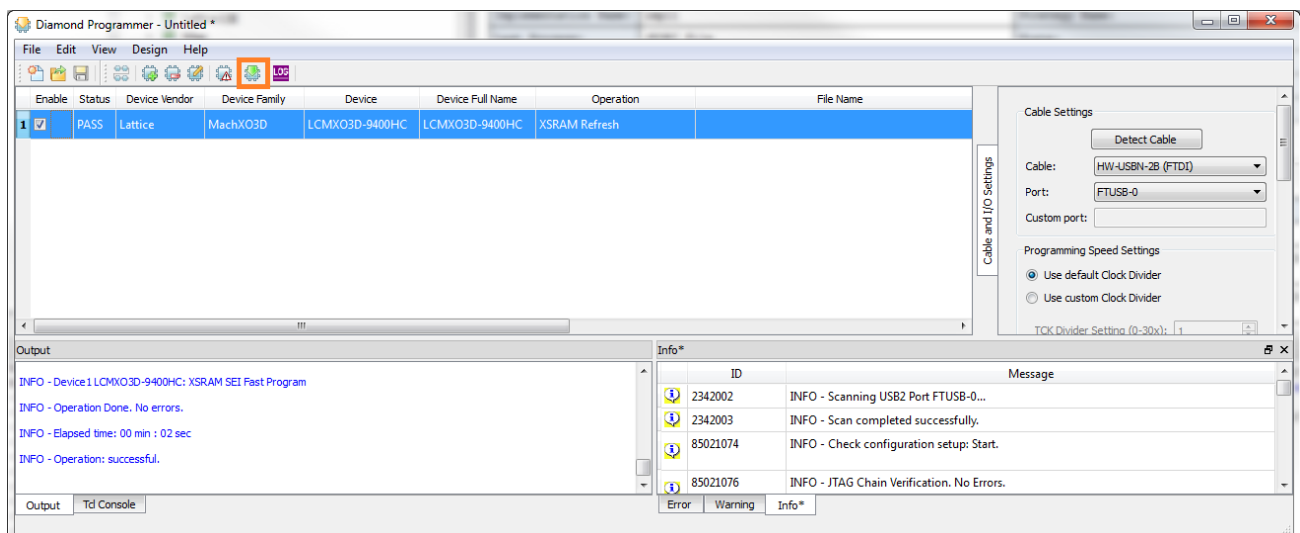

Figure 6.14. Start XSRAM Refresh Programming Operation
4. Click the **Program** button on the toolbar, as shown in Figure 6.14 to initiate background programming of the device. The original design bitstream is loaded after the software reports “Operation: successful” while the logic is working.